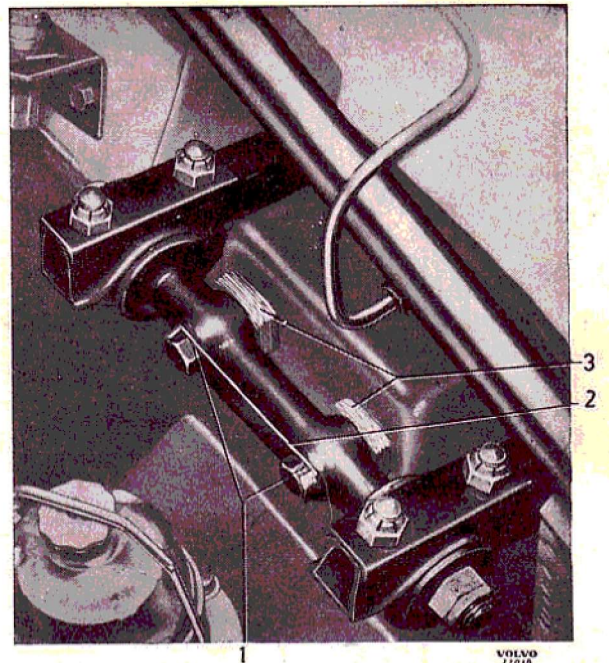
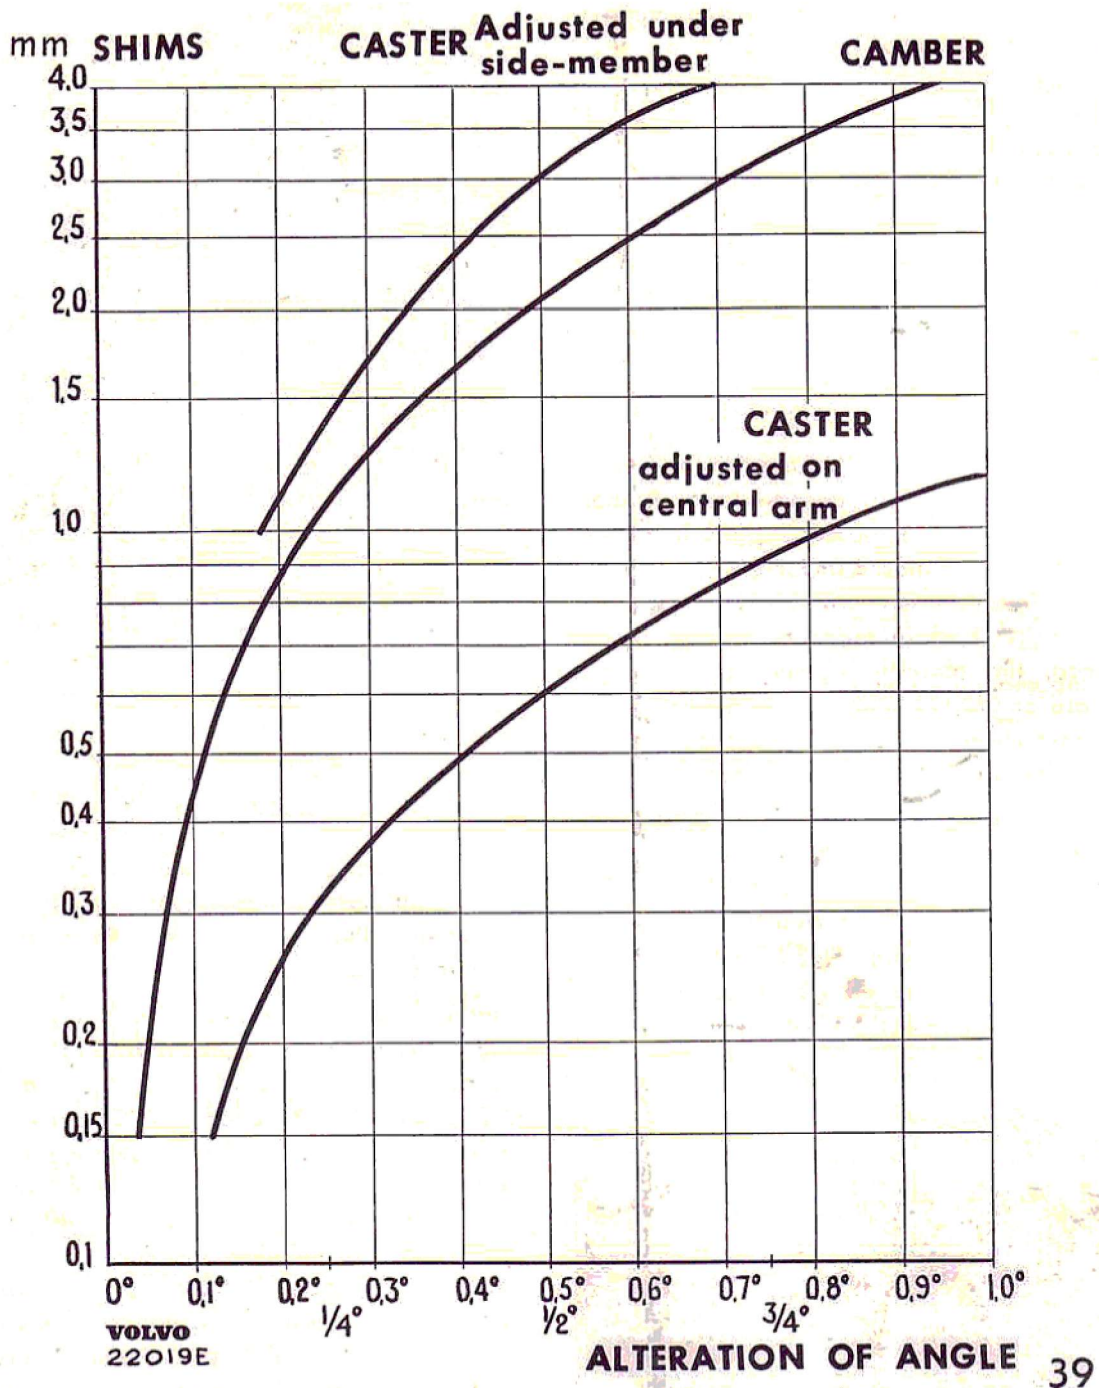

Fig. 6. Adjusting the camber and caster.
Fig. 7. Diagram for alteration of camber and caster.
Shims for adjusting the caster at the front axle member — side member are available in thicknesses of 2 and 3 mm (0.079 and 0.118"). The extent to which caster is altered by these shims is shown in the diagram, Fig. 7. **N.B.** The alterations must be the same on both sides in order to avoid extra stress in the front axle member.
When the caster on the right and left sides is different, adjustment is done at the upper wishbone shaft, see Fig. 6.
Slacken the attaching bolt (1) so that the adjusting shims can be lifted up. These are stocked in thicknesses of 0.15, 0.5, 1, 3 and 6 mm (0.006, 0.012, 0.039, 0.018 and 0.236"). The extent to which these alter the caster is shown in the diagram, Fig. 7. The same alteration is obtained if a shim is removed from one of the attaching bolts or if it is added to the other. In both cases the camber is altered slightly and the procedure will therefore partly depend on how much it is required to alter this. **When the camber is correct, caster is adjusted by removing shims.** Always tighten the attaching bolts to a torque of 4.8–5.5 kgm (35–40 ft.lb.) before making a new measurement. When the correct caster has been obtained, the attaching bolts are locked with the locking plate (2, Fig. 6).
The camber should be 0 to  $+\frac{1}{2}^\circ$  and is adjusted by means of shims (3, Fig. 6) at the upper wishbone shaft. When doing this, the attaching bolts (1)
Shims are stocked in the following thicknesses: 0.15, 0.5, 1, 3 and 6 mm (0.006, 0.012, 0.039, 0.018 and 0.236"). The extent to which the shims alter the angle can be seen from the diagram, Fig. 7.
When the correct camber has been obtained, the attaching bolts are locked with the locking plate (2, Fig. 6).